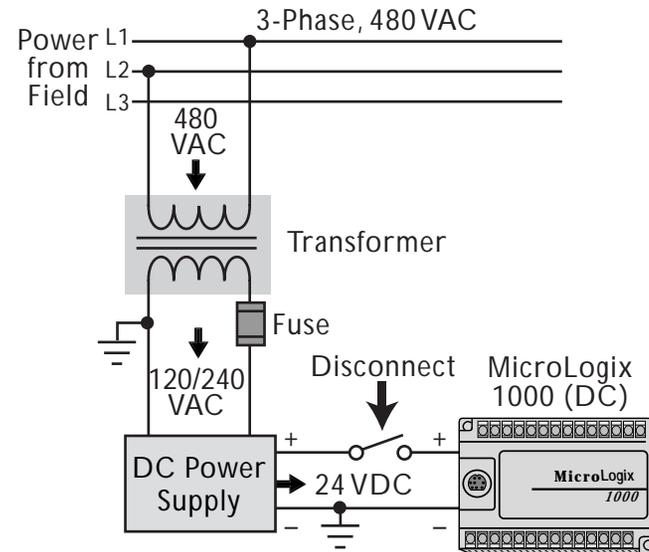

Figure 2-30. DC source power wiring to a MicroLogix 1000.
**DC Source Power Wiring.** With only a few detailed exceptions, DC systems use the same wiring configurations as AC systems. In a DC system, the power from the transformer is brought through a fuse to a DC power supply instead of to the PLC (see Figure 2-30). From there, the DC power supply sends out a 24 VDC signal through its positive and negative lines. These lines connect to the positive and negative terminals of the DC MicroLogix 1000, just as the L1 and L2 lines connect to the L1 and L2 terminals of the AC model. A DC MicroLogix's power wiring should also include a disconnect switch located between the DC power supply and the PLC.